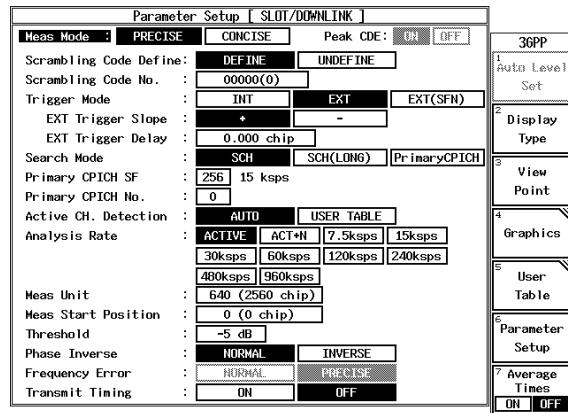

Figure 6-9 Setting of Measurement Parameters for Down Link (IQ Input)
4. On the R3267 Series, set the measurement parameters as shown in Figure 6-9.